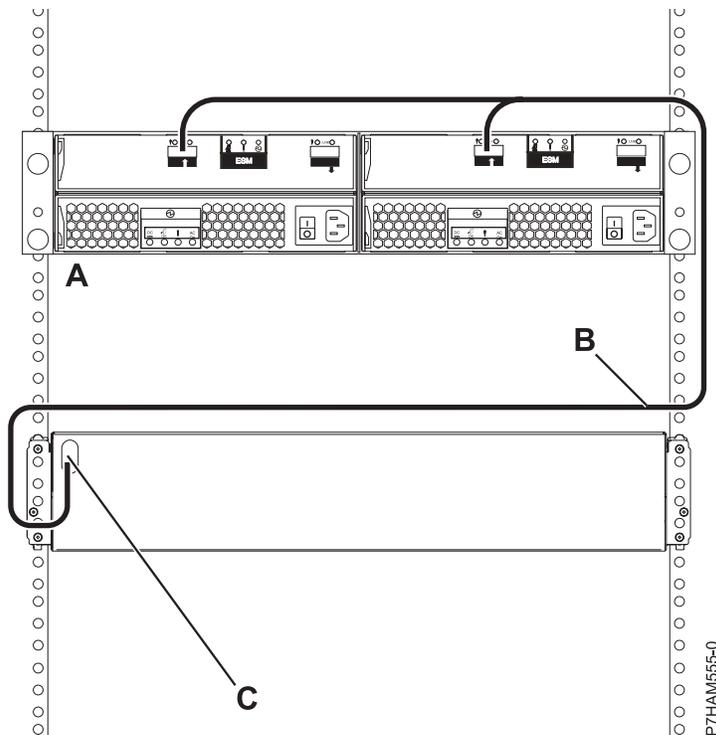

Figure 32. Connection of one 58/86 disk drive enclosure by using a YI cable to a system with support for a single SAS drawer
8. Perform the connection of one 58/86 disk drive enclosure (A) by using a YI cable (B) to a system with support for a single SAS drawer (C) as shown in Figure 32 on page 64.